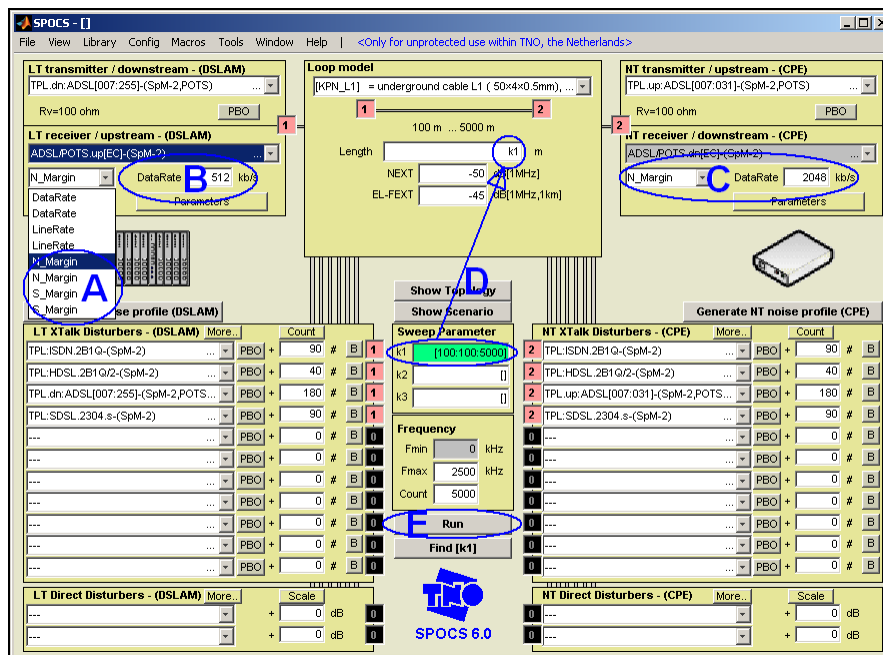

Figure 27: Relevant settings for a margin calculation.
Figure 27 highlights the relevant steps to enable such a margin calculation.
- [D] Specify the loop length as a value that has to be swept. Simply define the length as the result of sweep parameter “k1”, and subsequently define a proper sweep. In the example of figure 27, we have defined the sweep as “[100:100:5000]” meaning a sweep starting with “100”, ending with “5000”, in steps of 100. The result is that the loop length sweeps from 100 meter to 5 km.